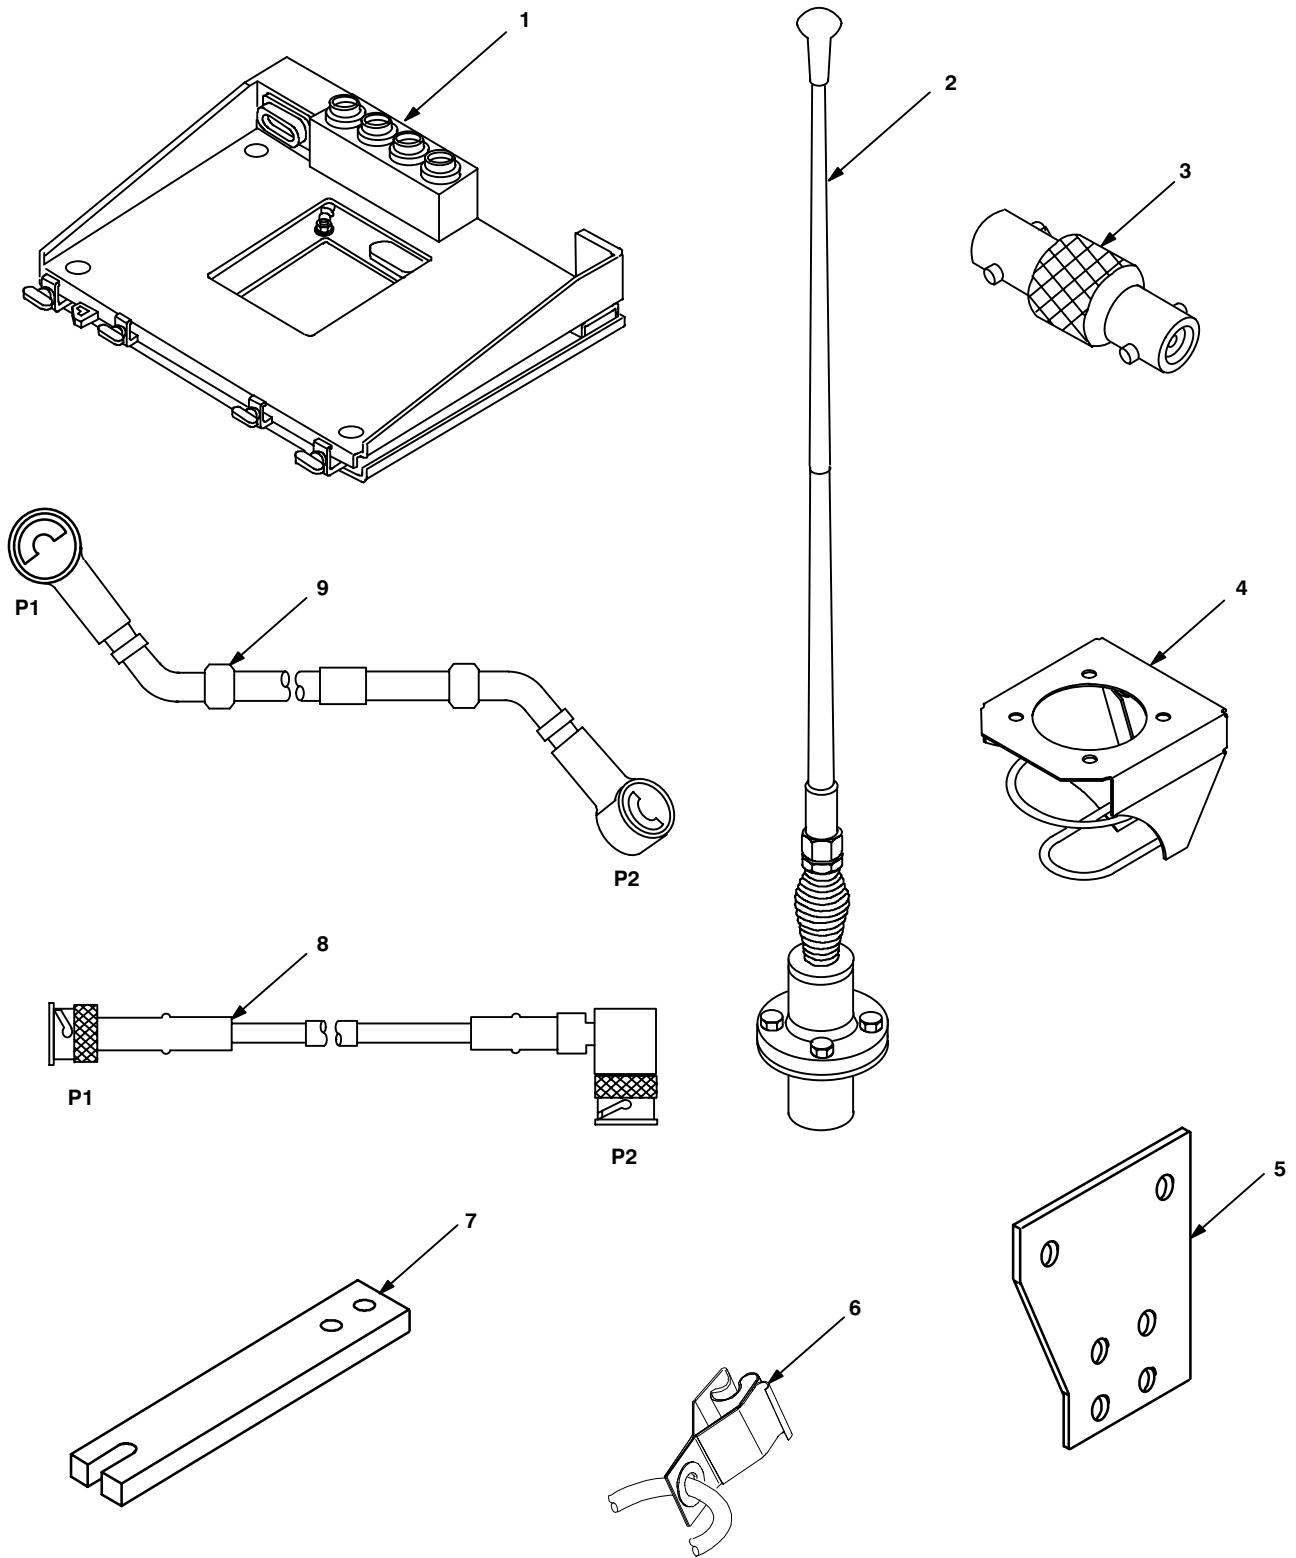

Figure 4-1. MK Illustrated Parts List
4.3.1 Items Supplied in MK and/or Required for Installation. Use Table 4-1 and figure 4-1 to identify and inventory MK parts supplied to install Radio Set AN/VRC-89 Series.